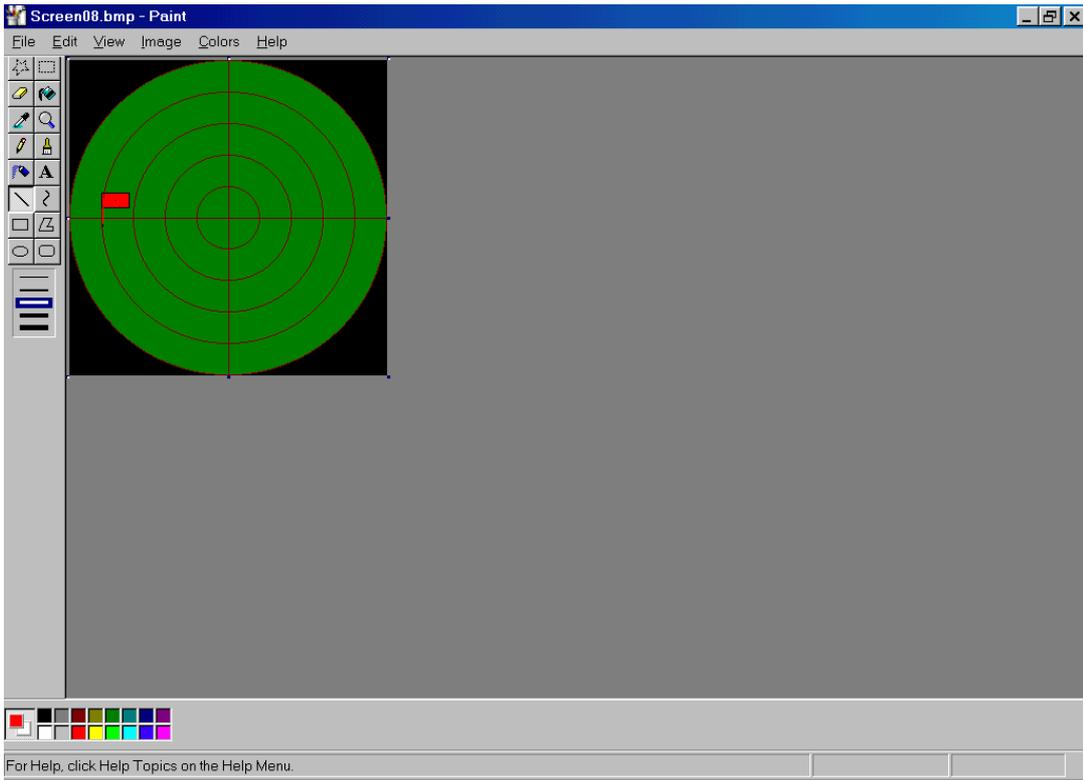

Figure 4-12: Paint Program
- (1) In IPI program press Setup, Options, laser sensor, Edit map buttons.
- (2) The paint program runs with the basic map for 100% scale (Screen 08).
- (3) To add the objects edit the picture and draw the objects (see Figure 4-12). In this example a red flag is positioned at 80% range and angle 180°.
- (4) Save and Exit the paint program.
- (5) Response to the dialog box “Update screen now?”. Press Yes or No.
- (6) To use the new map with the objects draw again the lasers detection boundaries (chapter 4.2.7).
- (7) To clear the map press Clear map and draw again lasers boundaries.